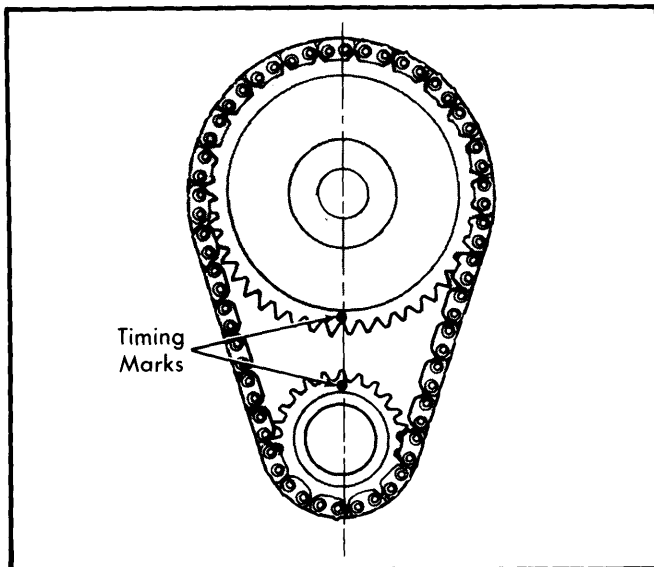

Fig. 5 Timing Chain and Crankshaft Sprocket Alignment
2) Rotate crankshaft until timing mark on sprocket is aligned with camshaft sprocket timing mark (see Fig. 5). Remove crankshaft sprocket, camshaft sprocket and timing chain as an assembly.
Installation – 1) Assemble timing chain, crankshaft sprocket and camshaft sprocket with timing marks aligned (see Fig. 5). Install assembly to crankshaft and camshaft. If timing chain deflects more than $\frac{1}{2}$ inch it should be replaced.